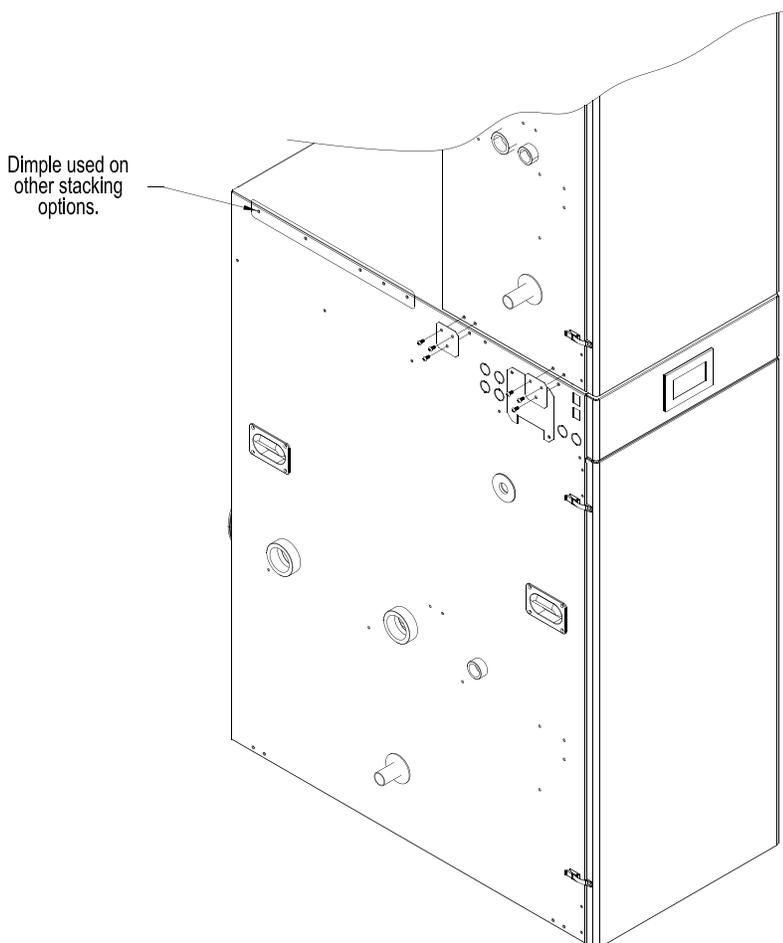

Figure 3-7: Stacking Boiler Attachment Bracket Placement
- b. Each Alpine boiler is factory packaged with two (2) Stacking Boiler Attachment Brackets and the bracket mounting hardware [six (6) self-drilling hex washer head plated #8 x 1/2” long screws]. Locate and remove the brackets and the hardware. The Stacking Boiler Attachment Bracket has three 7/32” diameter holes punched in a triangular pattern. See Figure 3-7 “Stacking Boiler Attachment Bracket Placement”.